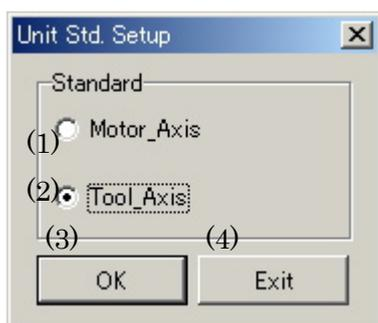

Fig. 7-5-4 Display unit setup screen
| (25) | Unit | The screen which chooses the display unit of a position and speed opens. (Fig. 7-5-4) |